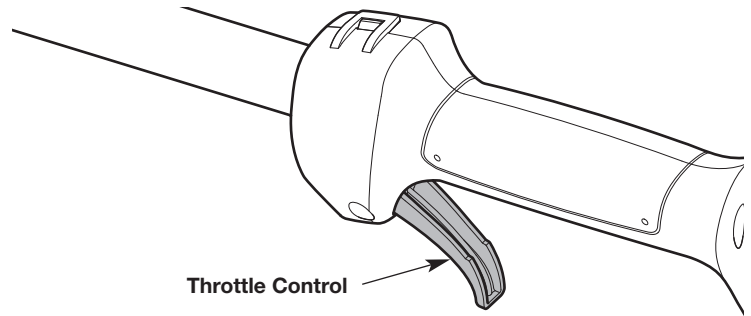

Fig. 9
4. Squeeze and hold the throttle control (Fig. 9).